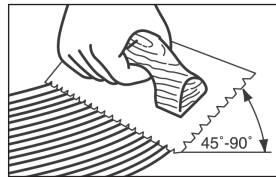

Figure 11
- Hold trowel at a 45° angle (Figure 11) firmly against the subfloor to obtain a 50-60 ft² (4-5.5 m²) per gallon spread rate (30-35 ft² per gallon for Summit spread with the included Summit All-In-One trowel) or other adhesive manufacturer's trowel. The trowel will leave ridges of adhesive and very little adhesive between the ridges. This method will allow you to still see the chalk lines between the ridges and provide the recommended spread rate. For additional application instructions, follow the recommendations on the adhesive container.